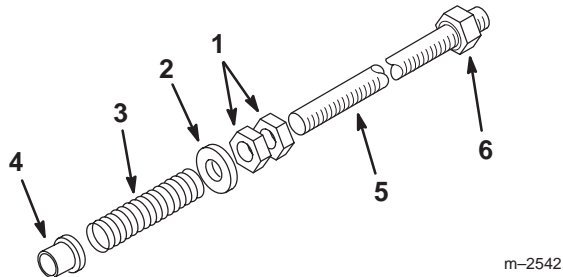

Figure 5
4. Thread two (2) 1/2 inch jam nuts approximately 9 inch (22.8 cm) up on each adjusting shaft (Fig. 5).
5. Slide a 1/2 inch spacer, spring and bushing onto each adjusting shaft. Make sure to install the bushing with the flange end against the spring (Fig. 5).